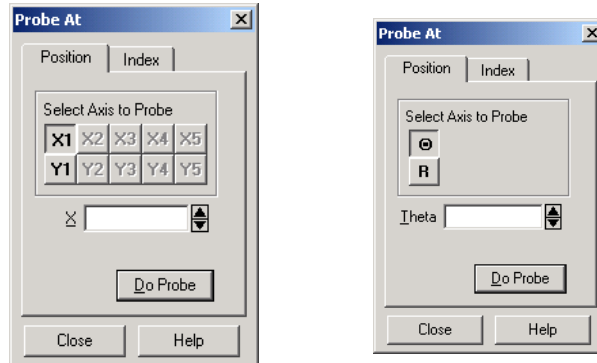

Figure 25-6. The Probe At dialog for XY and Polar Line plots.
2. Click Tool Details on the sidebar. The Probe At dialog appears. The Probe At dialogs for XY and Polar Line plots are shown in Figure 25-6